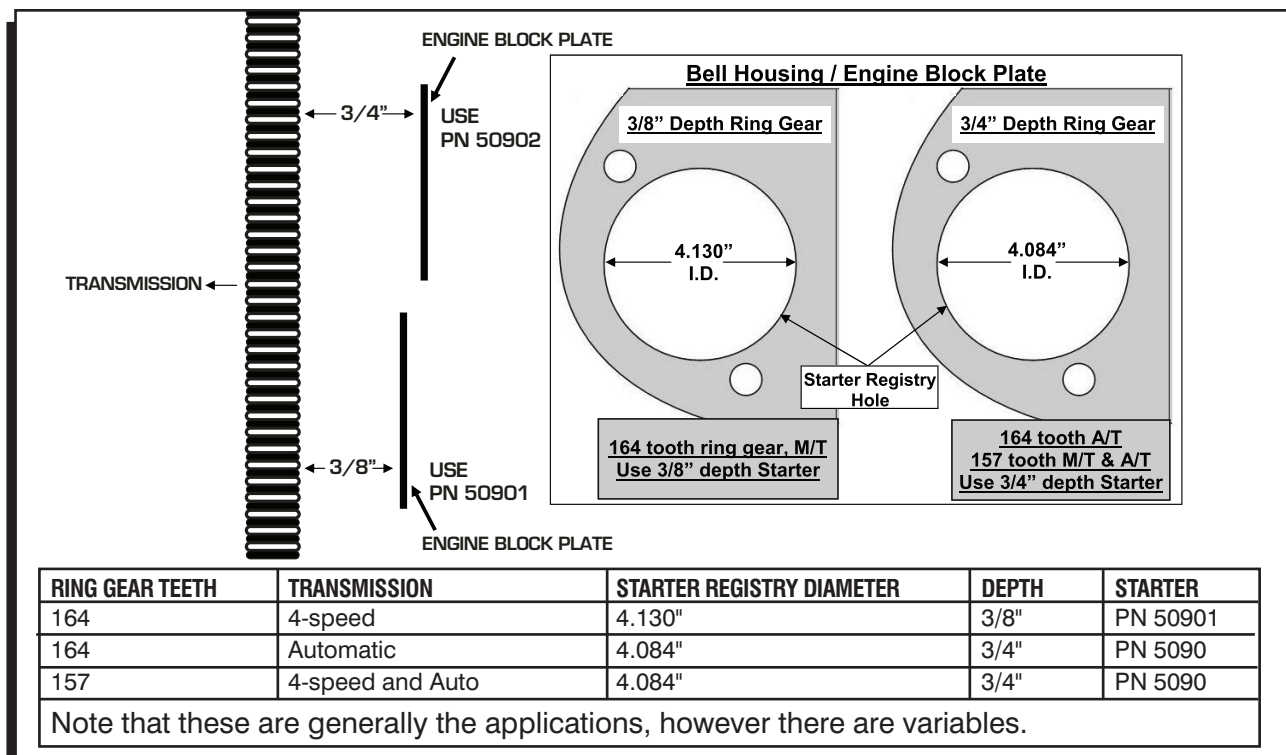

Figure 1 Ring Gear Depth and Bell Housing/Engine Block Identification.
When selecting a starter for your Ford, our research has found that year, model and drivetrain combination do not always dictate the correct starter. There are variations between the 164 tooth and 157 tooth flywheels and well as the inside diameter of the starter block plate (4.130" or 4.084"). MSD offers two starters for the 289/302 and 351W engines; one with a 3/8" depth ring gear, one with a 3/4" depth. Figure 1 shows the differences and applications.
3. Check that the position of the solenoid is away from direct heat sources and other components. If there are clearance problems, the starter housing can be rotated to move the location of the solenoid. This is done by removing the three bolts on the mounting block and repositioning the starter motor (Figure 1).